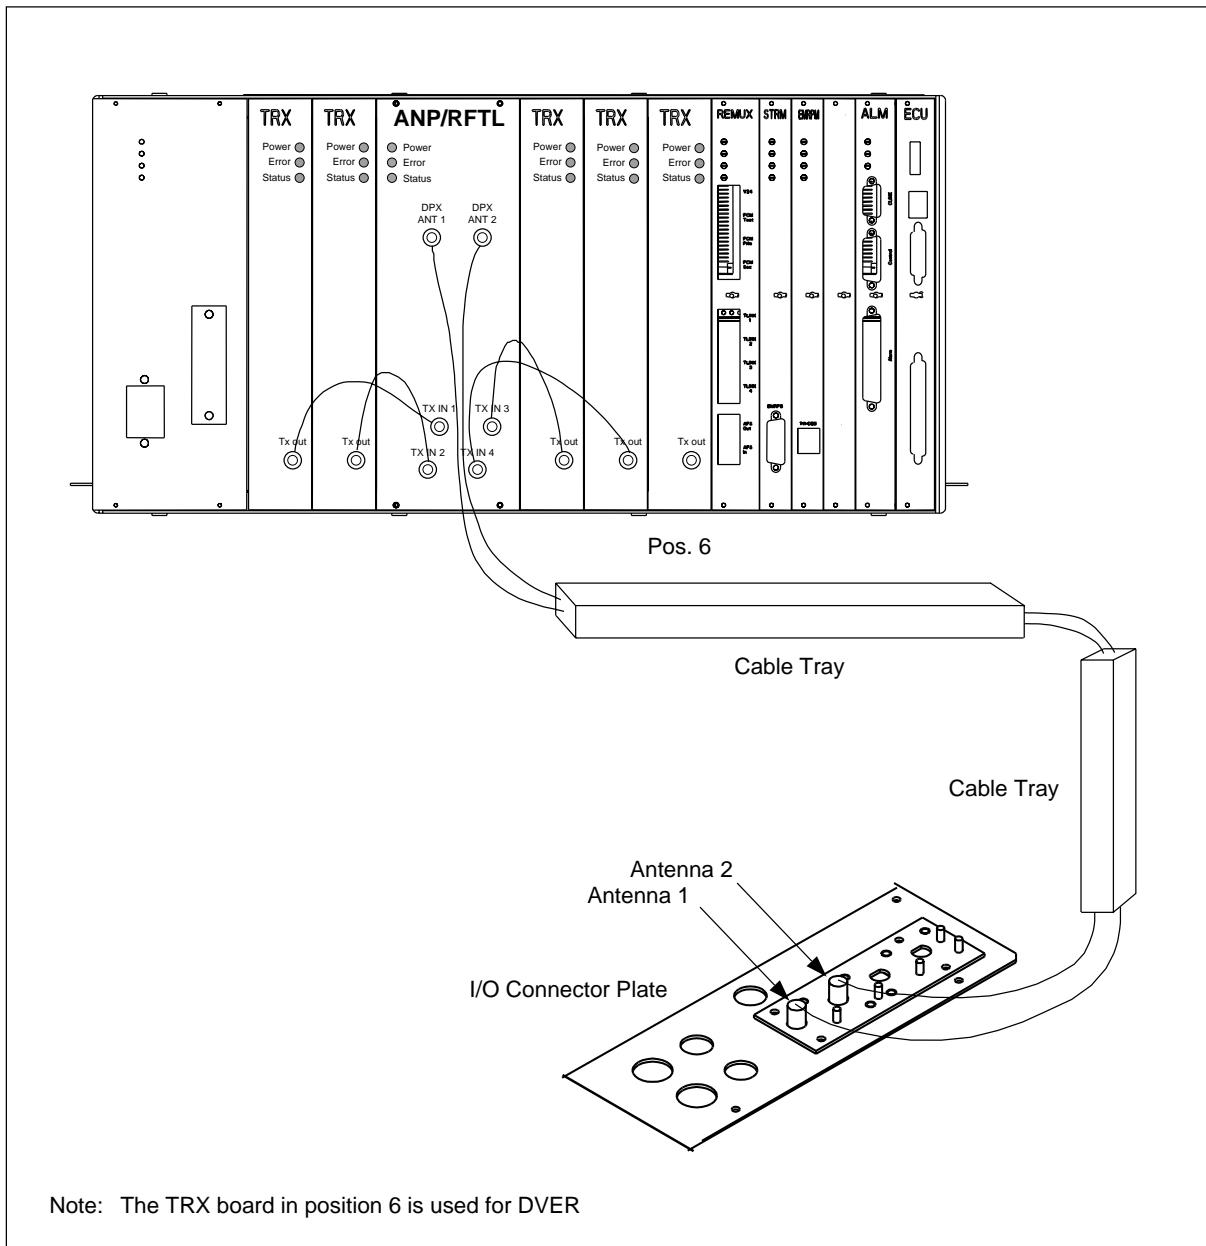
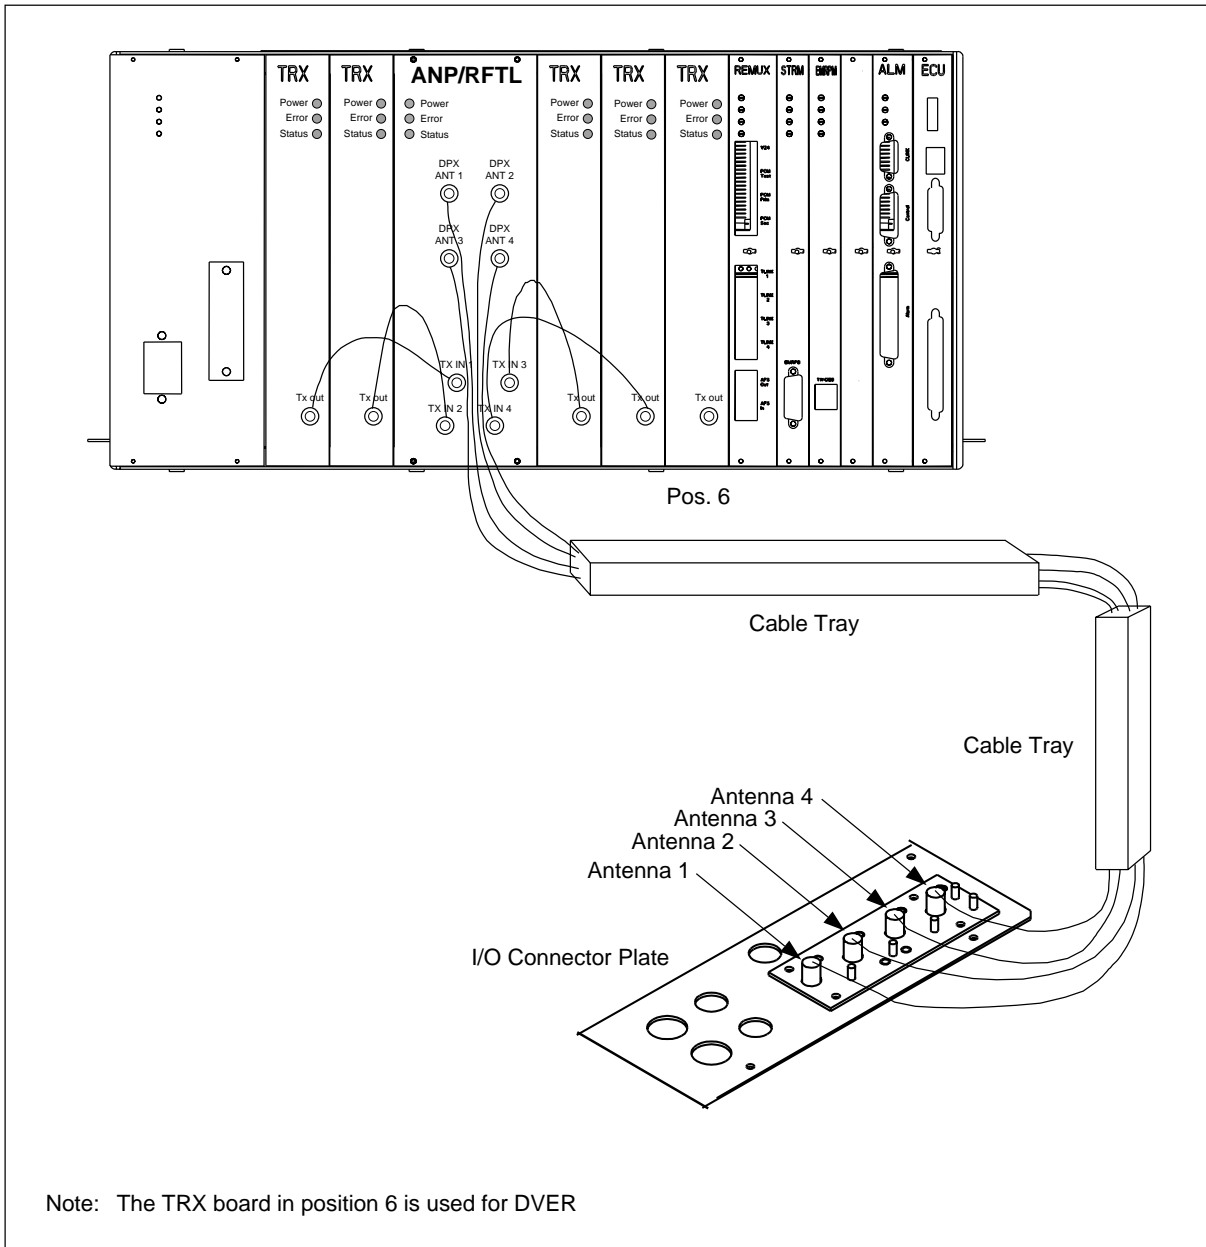

Figure 4-35. Antenna Cable Connections for a Cabinet Using Two Antennas
Figure 4-36. Antenna Cable Connections for a Cabinet Using Four Antennas
5. Connect the four ANP to TRX cables (RPM 113 1443/2) from the “TX Out” connector on the TRX unit to the appropriate TX IN connector on the ANP/RFTL unit. See Figure 4-35 on page 4-51 for the location of the connectors.
6. The ANP/RFTL unit has cable connections for two or four antennas depending on the type of unit installed. Figure 4-35 on page 4-51 illustrates two antennas and Figure 4-36 on page 4-52 illustrates four antennas. The cables are listed in Table 4-10 on page 4-52. The cable numbers for either a two-antenna or four-antenna configuration are the same. Install the antenna cables as follows: